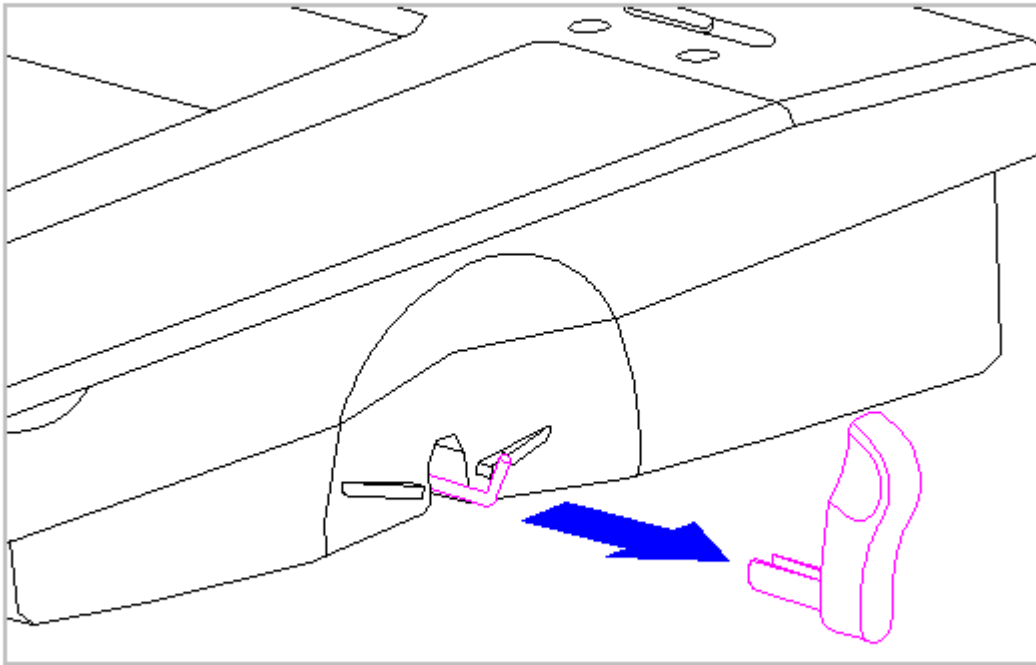

Figure 3-197. Removing the Docking Base Handle (All Models)
2. Slide the handle off the crankshaft (Figure 3-197).